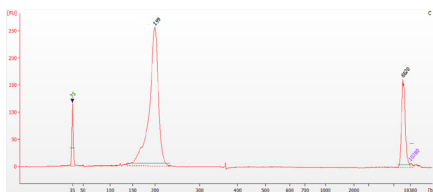

Figure 1. Agilent High Sensitivity DNA Kit. Libraries were generated using LACEseq kit starting from 7 ng of Ribosome Protected Fragment (RPFs).
2. Use the library profile results to determine whether each sample is suitable for further processing. Successful library production should yield a major peak at ~ 200 bp for Control RNA (figure 1). Small peaks observed in the ~ 170 bp size range are the result of adapter dimers (figure 1). When calculating expected library molecule sizes for a particular RNA input, use the following formula: $176 + \text{input RNA size (nt)} = \text{expected size of library molecules (bp)}$.